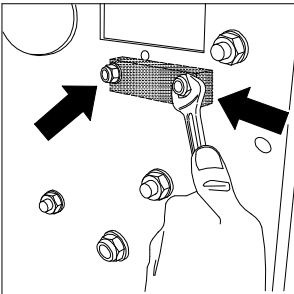

Fig. 18
- Unscrew the two safety nuts and remove the counter-blade (Fig. 18).